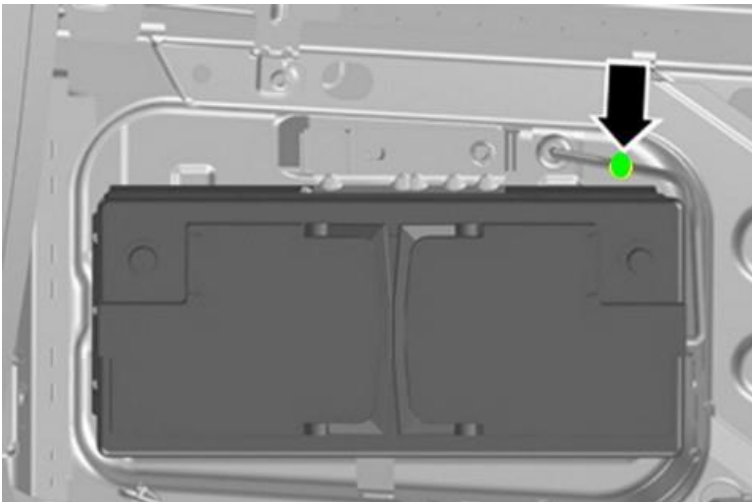

Figure 5
13) Place a green paint completion mark as shown within the Identification section (Figure 5)
Green paint completion mark on the 12 volt battery vent hose (Figure 5)